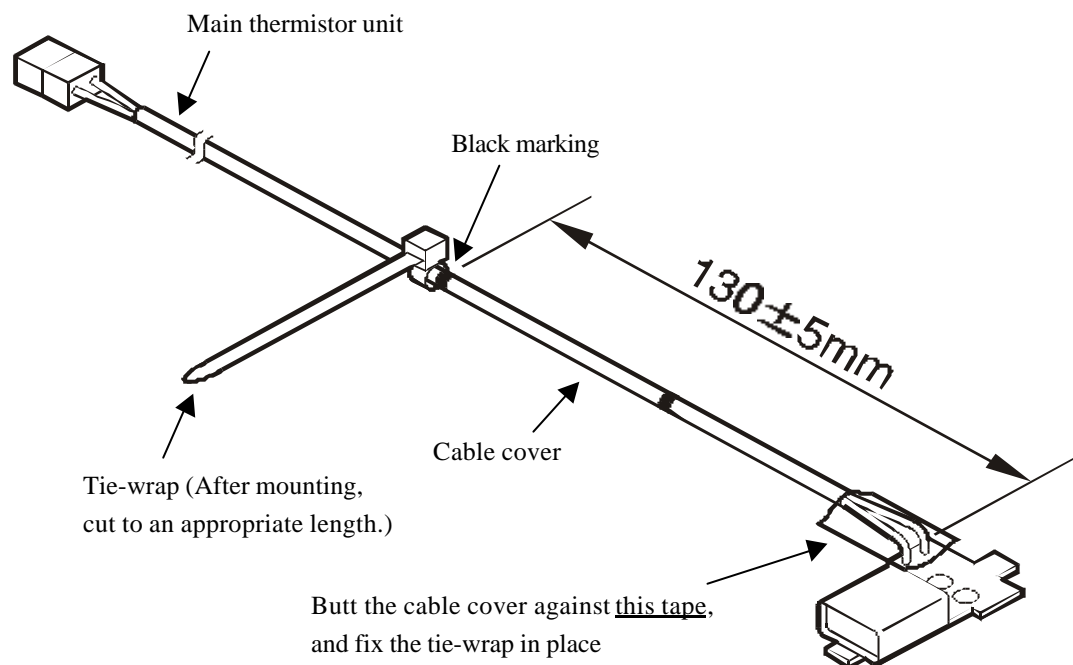

Figure 1
- 1) Before mounting the main thermistor (TH1; FH7-7463) to the machine, fit the tie-wrap in such a way that the black marking on the cable cover is to its right when viewed as in Figure 1 with the cable cover butted against the tape.